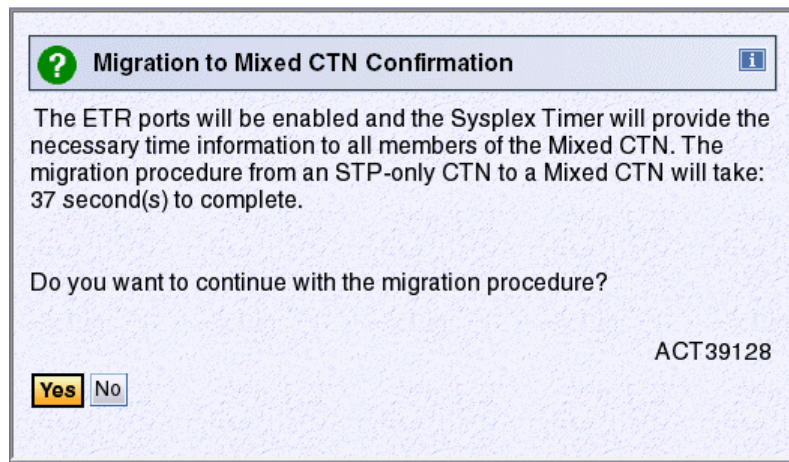

Figure 15-13 Message ACT39128 - Migration to Mixed CTN confirmation
5. Click **Yes** to confirm. This displays the Migration to Mixed CTN Confirmation, message ACT39128 (Figure 15-13). This is a second confirmation window that provides an estimate of how long the migration process will take.